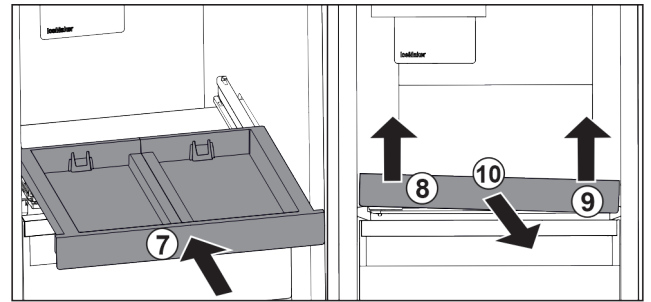

Fig. 20
- Slide in the pull-out board. Fig. 20 (7)
- Lift the pull-out board on the front left. Fig. 20 (8)
- Lift the pull-out board on the front right. Fig. 20 (9)
- Take out the pull-out board to the front. Fig. 20 (10)